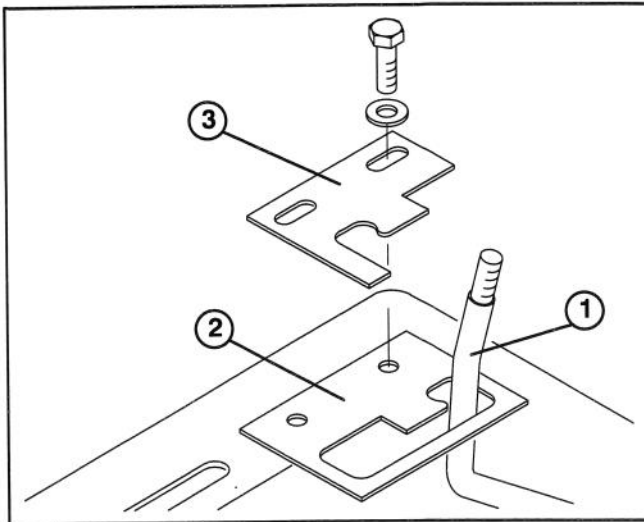

Figure 6
11. Place upper and lower detent plates over lever, positioning plates as shown in figure 6. Loosely secure plates to console frame with (2) 5/16-18 x 1" lg. capscrews and flatwashers. Do not tighten capscrews at this time.